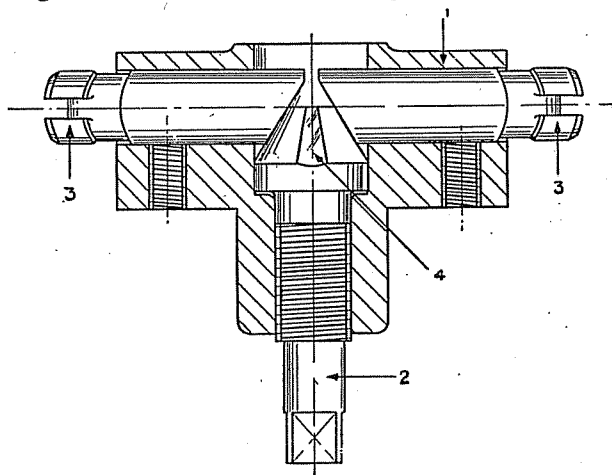

Fig. 24—Section of Adjuster.
The adjuster unit (See Figure 24) consists of a housing (1), a wedge (2) having a cone at one end, on the face of which are four machined flats (4), a threaded shank and machined flats at the outer end to enable a spanner to be used for adjustment purposes. Two tappets (3), with inclined faces at the inner ends, seat against the cone and grooves at the outer ends into which the brake shoes fit. The complete unit is secured to the brake shoe support plate at a point diametrically opposite the expander by set screws which screw into tapped holes in the adjuster housing. The operation of the adjuster is as follows:
The adjuster is the only point on each rear wheel brake at which adjustment can be made to compensate for lining wear. The stem of the wedge (2) See Figure 24, protrudes through the brake shoe support plate and the end is machined square to enable a spanner to be used for adjustment purposes.
- (1) Jack up rear axle until wheel revolves freely.
- (2) Turn the wedge on each rear wheel in a clockwise direction as far as possible, using a spanner of normal length without undue force.
- (3) In this position the tappets (3) Figure 24, will be seating on the cone between the flats.
- (4) Turn the wedge in an anti-clockwise direction until a "click" is heard which will indicate the tappets have come under the influence of the brake shoe pull off springs and dropped on to the nearest flats.
- (5) Turn the wheels and if they do not rotate freely without drag, turn the wedge until a further "click" is heard.